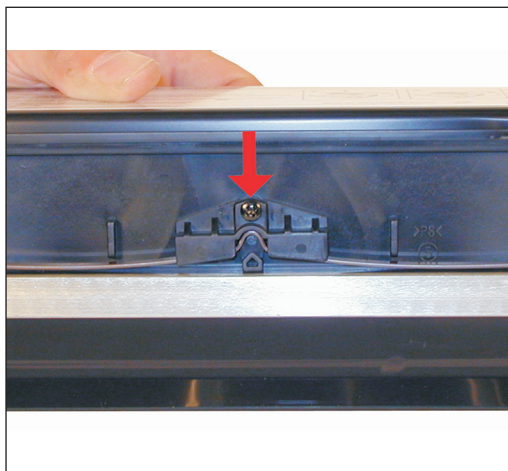

Figure 13
10) Remove the screw on the doctor blade spring holder. Remove the entire spring and holder assy. See Figure 13